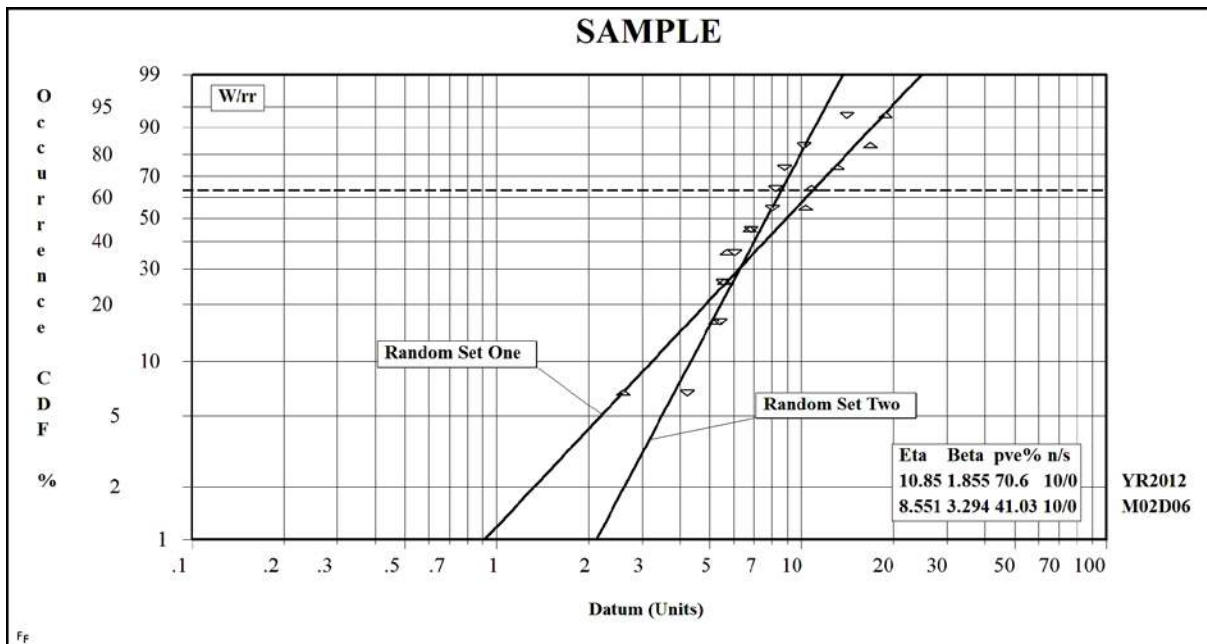

Figure 6: Quick Monte Carlo Plot
- D. With Home group still visible/active, repeat selecting <Enter> twice each time to get two or more different samples. You have a plot like Figure 6 showing sample scatter—later we’ll show the benefits of using this MC technique for serious work. SuperSMITH Weibull is configured for getting productive results quickly. In the Sample menu, you can change the model, change the quantity of data in a set, and change set quantity. With just a few selections, you’ve automatically filled the data grid and made a plot. This is one way to get a quick set of data for using the software, trying different analysis features, and getting familiar with software options.